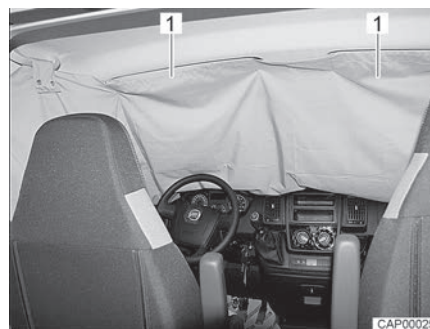

Fig. 36 Cabin black-out shade on windscreen
- Push pockets (Fig. 36,1) of cabin black-out shade over the two sun visors.